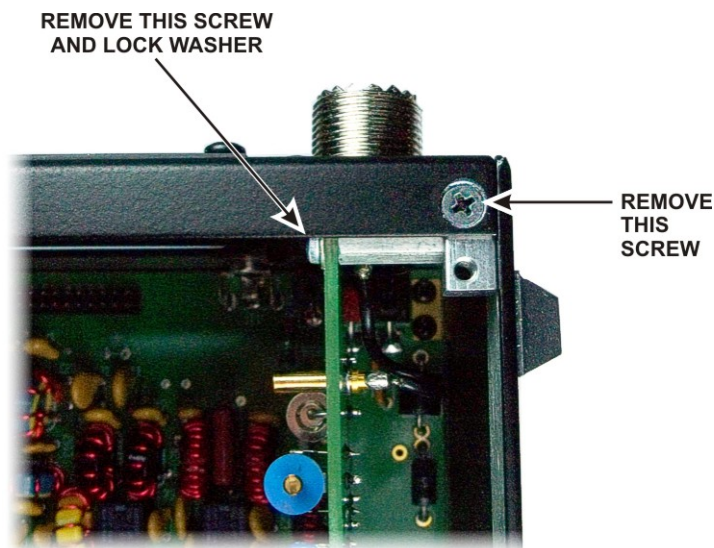
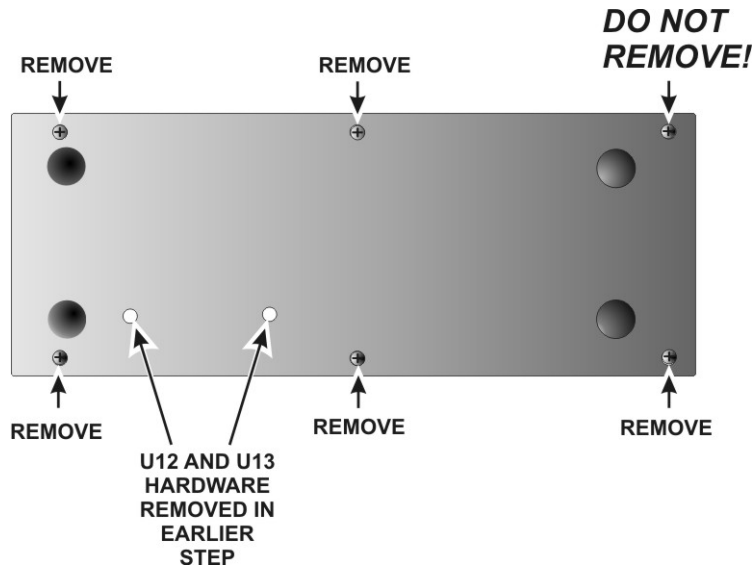

Figure 5. Removing Side Panel Hardware Part 1.
Figure 6. Removing Side Panel Hardware, Part 2.
☐ Remove the screw holding the KANT3 board to the standoff and the screw holding the 2D fastener to the rear panel near the SO239 antenna connector shown in Figure 5. Do not lose the lock washer inside the K3. It is easier to keep the hardware from falling inside if you set the K3 on its side feet and remove the screw and lock washer holding the KANT3 board first, then set it on its bottom feet and remove the flat head screw from the 2D fastener.
☐ Remove the five screws shown in Figure 6 from the right side panel to release it. The side panel will lift off with the 2D fastener and standoff shown in Figure 5 attached.
- Replace the right side panel on the K3, installing the screws shown in Figure 6 first. Use the 4-40 3/16" (4.8 mm) screws you removed earlier.
- Replace the 4-40 1/4" (6.4 mm) zinc pan head screw and washer that holds the KAT3 board to the standoff as shown in Figure 5.
- Replace the 4-40, 3/16" (4.8 mm) black flat head screw that secures the back panel to the 2D fastener as shown in Figure 5.